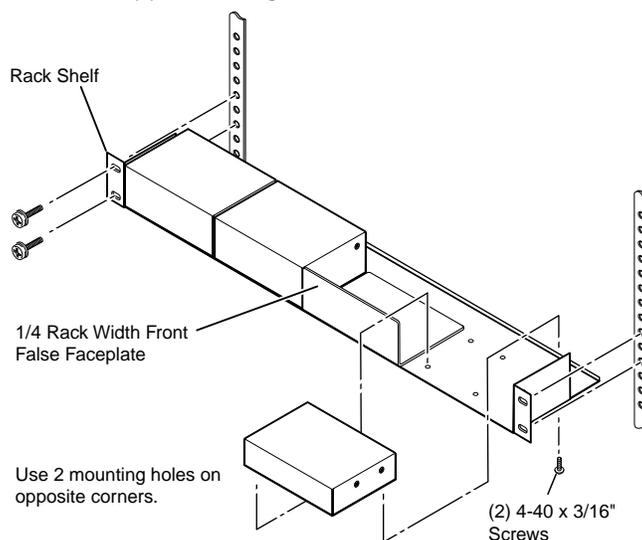

Figure 2. Mounting the Transmitter or Receiver unit on a 3.5-inch Rack Shelf
- RSF 123 3.5-inch deep rack shelf kit (part #60-190-20) (figure 2)
- 2.** Mount the transmitter or receiver unit on the rack shelf, using two 4-40 x 3/16-inch screws in opposite (diagonal) corners to secure it to the shelf (**figure 2**).